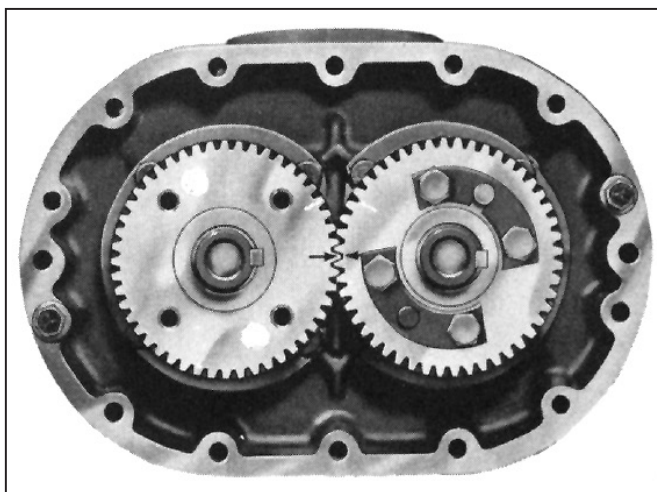
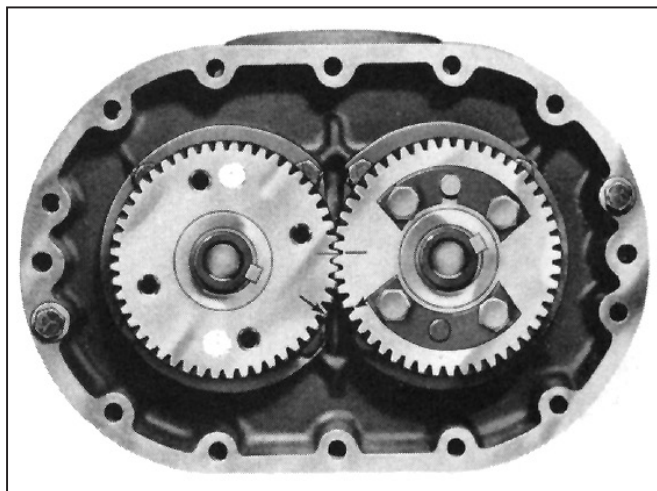

Figure 9A - Keyways in line and timing marks matched
Figure 9B - Timing marks advanced 3 teeth
14. Position the timing gears for pulling by first matching the timing marks on the gears. See Figure 9A below. Turn the drive gear clockwise five teeth and mark a matching reference line on each gear as shown in Figure 9B below. The rotor lobes are now in their most open position. Using a gear puller, the driven gear (left hand helix) may now be removed without jamming the rotors. This gear is in two parts - the gear rim and hub. It is not necessary to disassemble. Do not allow the gears to move from the matched reference line while pulling. Use a light rocking motion while pulling the gear to insure that the lobes have not jammed.